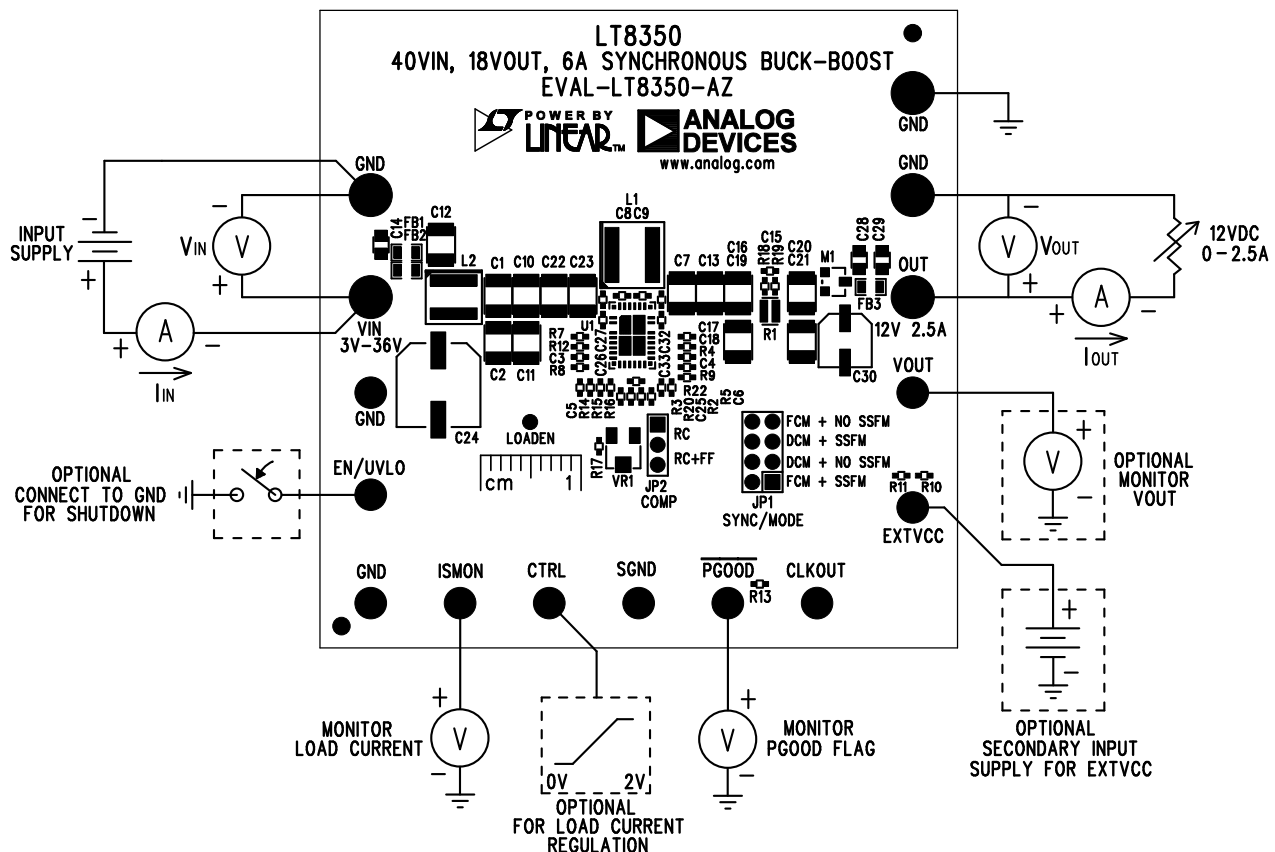

Figure 1. Test Procedure Setup Drawing for EVAL-LT8350-AZ
Evaluation circuit EVAL-LT8350-AZ is easy to set up to evaluate the performance of the LT8350. Refer to Figure 1 for proper measurement equipment setup and follow the procedure below.
1. With power off, connect a load capable of 12V 2.5A operation between OUT and GND turrets on the PCB as shown in Figure 1.
2. Connect the EN/UVLO terminal to GND with a clip-on lead. Connect the power supply (with power off) and meters as shown in Figure 1.